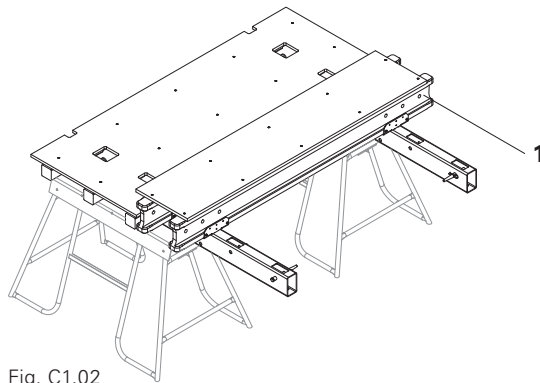

Fig. C1.02
1. Place the Platform Edge Beam VD 250/265 (31) on a stable and sufficiently load-bearing surface in an elevated position (assembly frame). (Fig. C1.02)